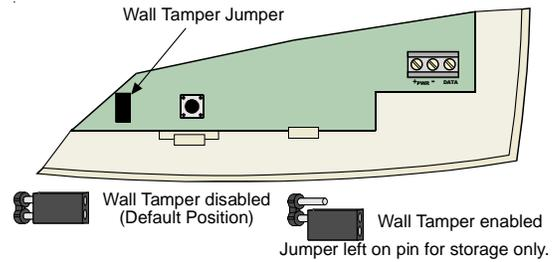

Figure 3 - Wall Tamper Jumper
- Position the Wall Tamper Jumper as shown in Figure 3.